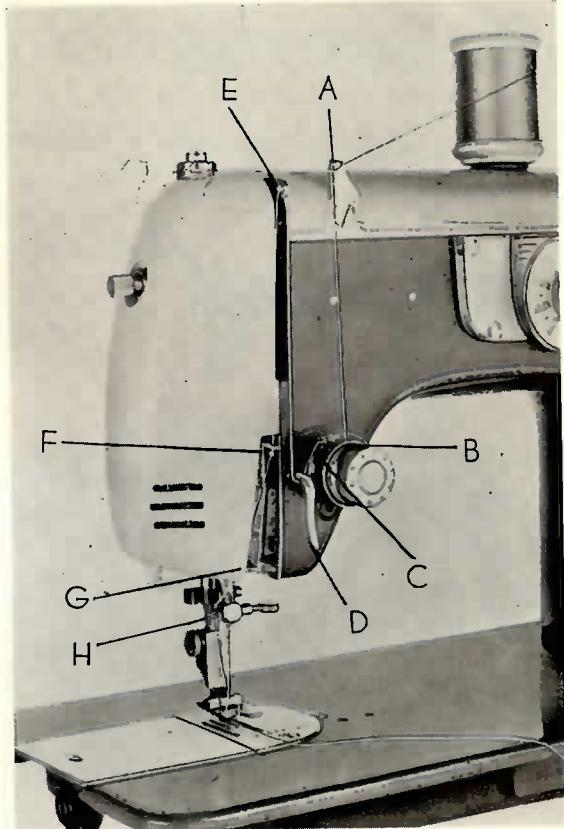

Fig. 12
- 3) Lead the thread through the arm thread-guide (A) (Fig. 12.)
- 4) Run the thread down to the tension disc (B) and between them from right to left and up. Draw the thread up through the check spring (C).
- 5) Then downward again around the underside of the thread retainig bar (D) and up through the eyelet of the thread take up lever (E) from right to left
- 6) Now run the thread down through both thread guides (F) (G), of the thread protector and then through the loop of the needle bar threadguide (H) from the back.